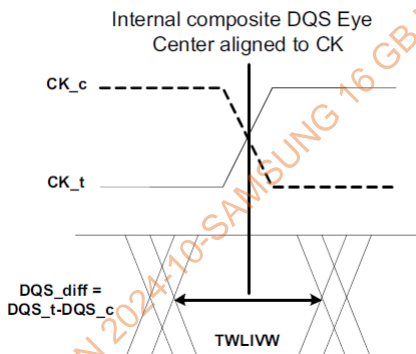

Figure 25. DQS_t/DQS_c to CK_t/CK_c timings at the DRAM pins referenced from the internal latch
- 28) t_{WLIW} is defined in a similar manner to t_{dIVW_Total} , except that here it is a DQS input valid window with respect to CK. This would need to account for all VT (voltage and temperature) drift terms between CK and DQS within the DRAM that affect the write-leveling input valid window. The DQS input mask for timing with respect to CK is shown in Figure 25. The "total" mask (TWLIW) defines the time the input signal must not encroach in order for the DQS input to be successfully captured by CK with a BER of lower than tbd. The mask is a receiver property and it is not the valid data-eye.